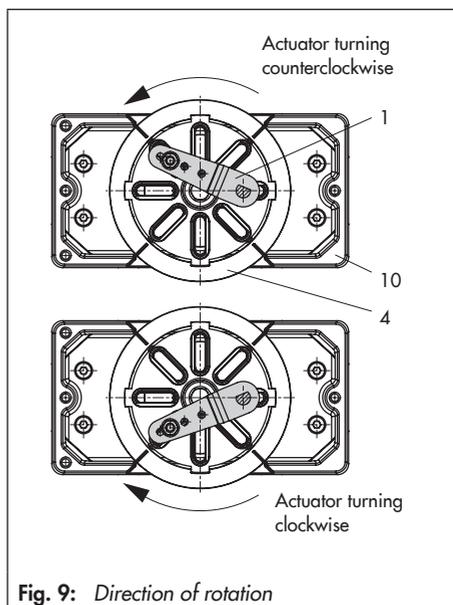

Fig. 9: Direction of rotation
4. Fasten coupling wheel (4) on the slotted actuator shaft or adapter (3) using screw (4.1) and disk spring (4.2).
5. Unscrew the standard follower pin (2) from the positioner's M lever (1). Attach the follower pin (Ø5 mm) included in the mounting kit to pin position 90°.
6. Place positioner on housing (10) and screw it tight. Taking the actuator's direction of rotation into account, adjust lever (1) so that it engages in the correct slot with its follower pin (see Fig. 9).